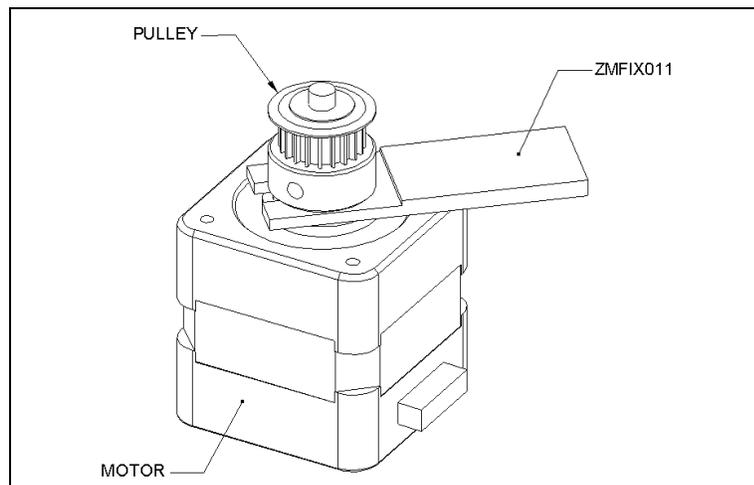

Figure 7-30 Affixing the Pulley to the Motor
- 2 Using the Z Motor Pulley Height Setting Jig (ZMFX011), fit the pulley (Part No. 320101000) to Z Motor (Part No. 528300900) using one M4X6 Cone Point Set Screw Part No. 307400406 and Loctite 222 (Figure 7-30). Discard the setscrew supplied with the pulley. If the jig is not available, set the distance between the pulley and the motor base to 2.2 mm.